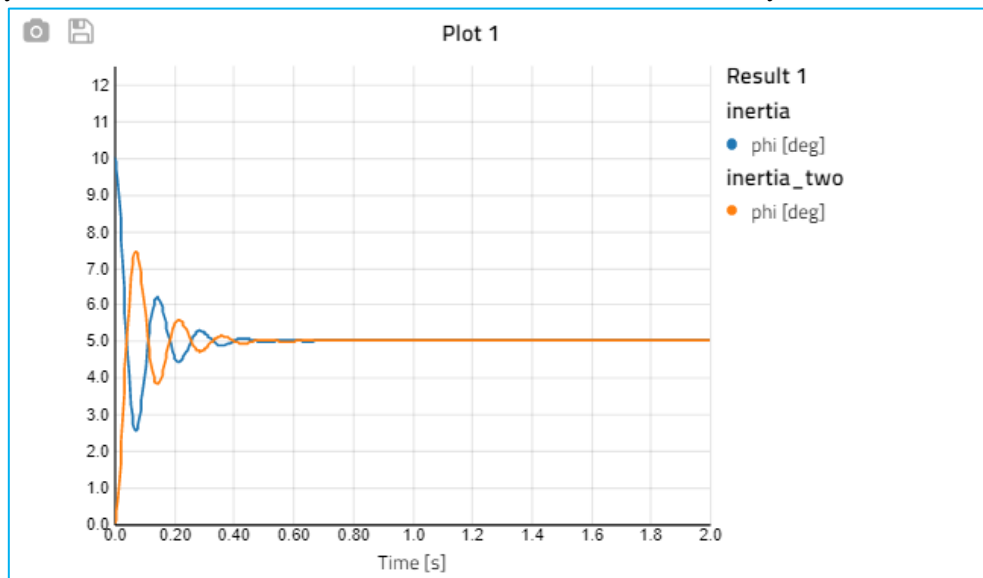

Figure 17 Verify initial values
15. Verify whether the model's initial values are as seen in Figure 17. Analyze the results.